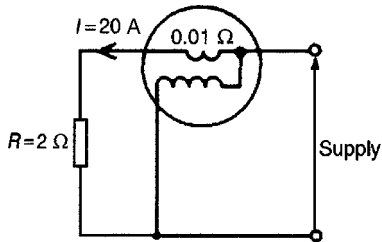

Figure 10.13
Problem 6. (a) A current of 20 A flows through a load having a resistance of $2\ \Omega$. Determine the power dissipated in the load. (b) A wattmeter, whose current coil has a resistance of $0.01\ \Omega$ is connected as shown in Fig. 10.13 Determine the wattmeter reading.
- 2 (a) A current of 15 A flows through a load having a resistance of $4\ \Omega$. Determine the power dissipated in the load. (b) A wattmeter, whose current coil has a resistance of $0.02\ \Omega$ is connected (as shown in Fig. 10.13) to measure the power in the load. Determine the wattmeter reading assuming the current in the load is still 15 A.